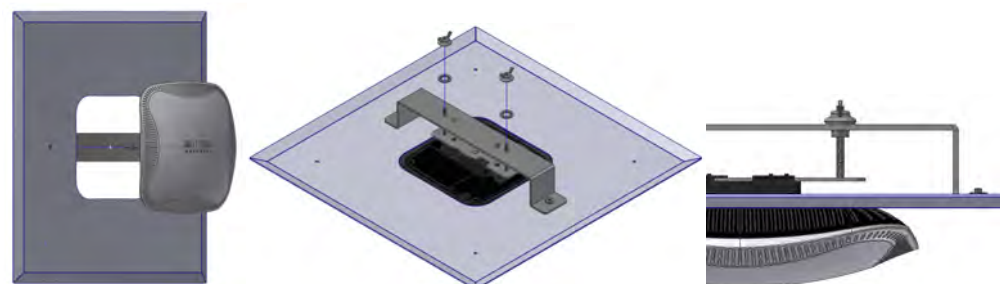

Figure 3 - T-Bar Bracket Install
Step 4 – Align the threaded studs to the two outer holes in the bracket attached to the Trim. Once the access point is snug in the hole, place the lock washer and wing nut onto the threaded rod. Tighten wing nuts until they are snug. With your fingers, tighten the hex nuts on the underside of the bracket then re-tighten the wing nuts until they no longer move freely (Figure 3).